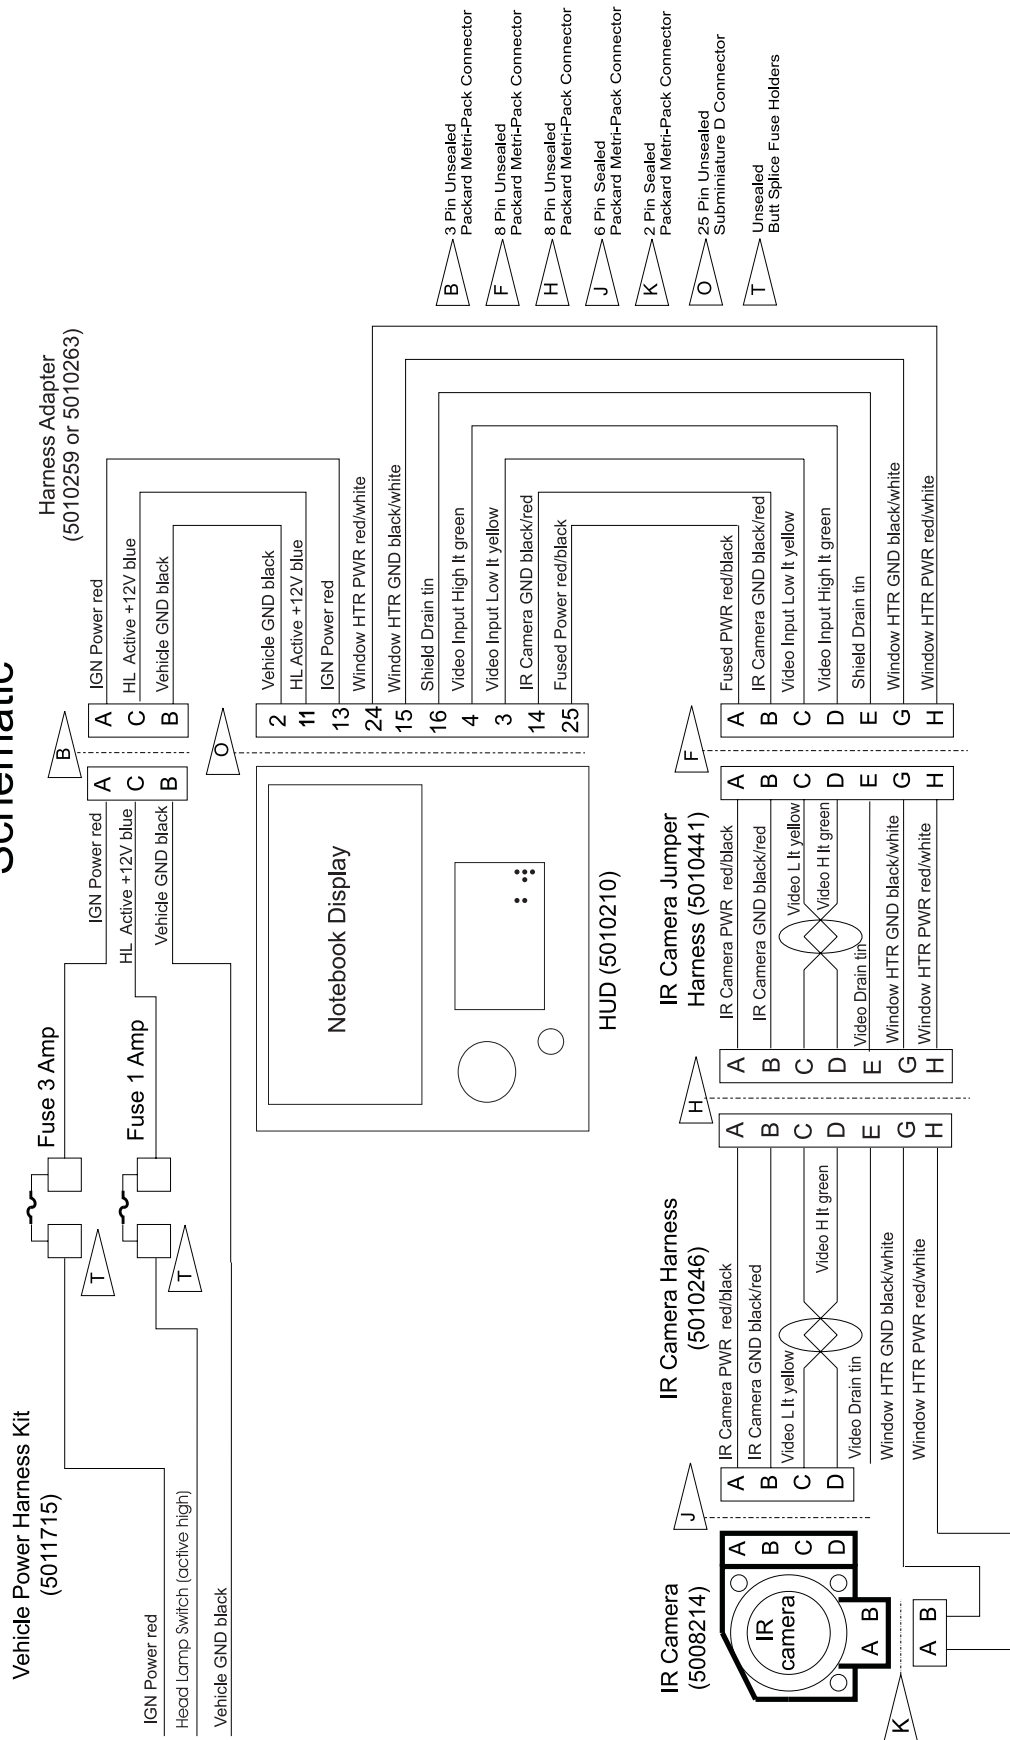

FIGURE 43 - ELECTRICAL WIRING DIAGRAM FOR BENDIX® XVISION® NIGHT VISION SYSTEM
Check the 25-pin display harness connections, reference XVision system schematic, figure 43 on page 23 @ (C)
Check the 3-pin vehicle harness connections, reference XVision system schematic, figure 43, on page 23 @ (A)
Check the 6-pin IR camera harness connections (2 pins not used), reference XVision system schematic, figure 43 on page 23 @ (H)
Check the 2-pin IR camera harness connections. Reference the XVision system schematic, figure 43 on page 23 @